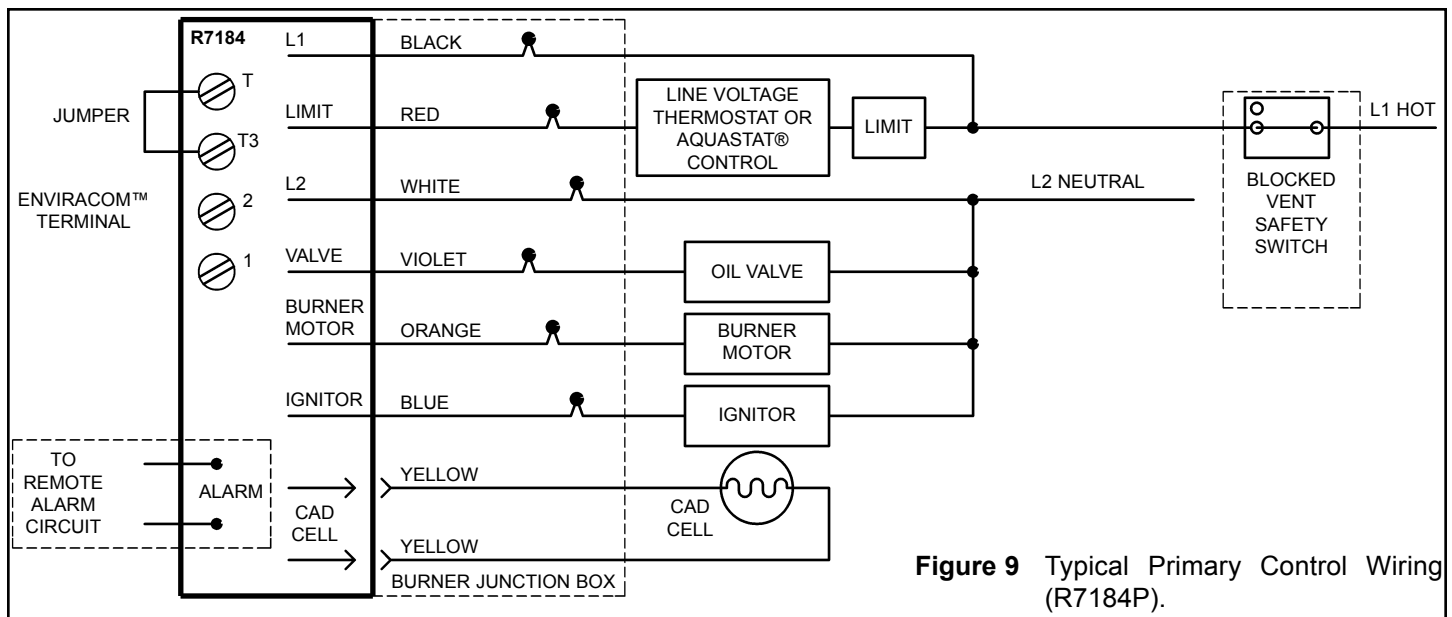

Figure 9 Typical Primary Control Wiring (R7184P).
3. Wire the safety switch in series with L1 of the electrical supply (see Figures 9, 10 & 11). Install and route wiring in accordance with "Canadian Electrical Code Part 1 (C22.1)" and any applicable local codes.
5. Wire the control to the burner as shown in the wiring diagrams (Figures 9, 10 & 11).